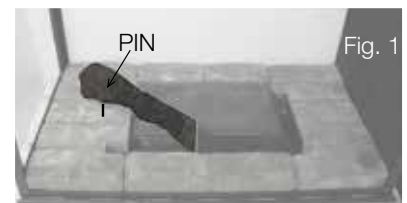

Fig. 1
2. Place a pin into the bottom of log #1 lining it up with the hole in the hearth pad. Then place onto the screw and spacer located in the corner of the burner, on the right side. Place a pin into the center of log #1 (**FIG.1**).